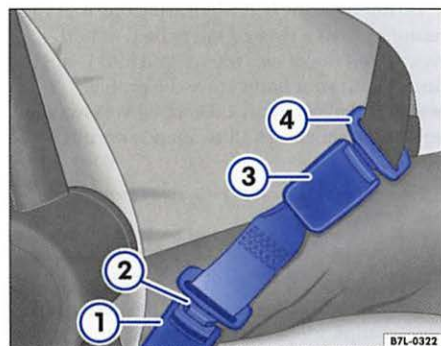

Fig. 55 A safety belt extender properly attached to the factory-installed safety belt.
Key to fig. 55:
- Insert the buckle tongue on the safety belt extender ⇒ fig. 55 ② into the vehicle belt buckle for the seat where the safety belt extender is being used ①.